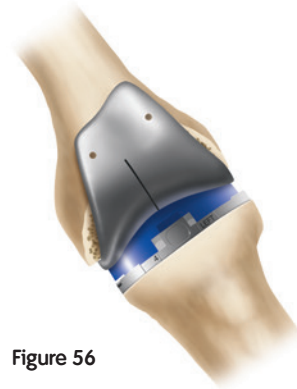

Figure 56
- 2 Perform a trial range of motion. The alignment marks on the front of the femoral and tibial trials should line up (Figure 56). The quick-connect handle may be attached to the tibial trial and used to set the appropriate rotational alignment.